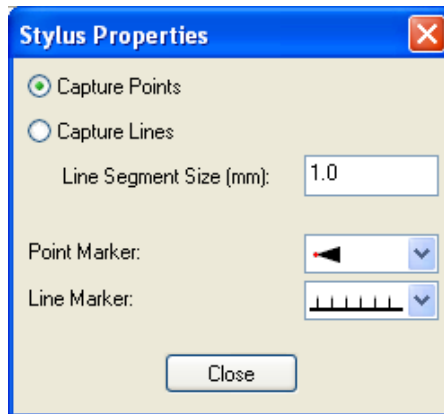
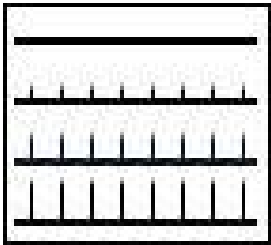

Figure 3: The Stylus Properties dialog box.
Figure 7: The Line Marker options drop-down menu.
Click on **Stylus/Properties** to bring up the **Stylus Properties** dialog box (Figure 3). Ensure that the **Capture Points** option is selected and the stylus is correctly setup (Section 1.1.1 (mechanical) or 1.2.1 (optical)).
Click on **Stylus/Properties** to bring up the **Stylus Properties** dialog box (Figure 3). Ensure that the **Capture Lines** option is selected and the stylus is correctly setup (Sections 1.1.1 or 1.2.1).
Click on **Stylus/Properties** to bring up the **Stylus Properties** dialog box (Figure 3). Then click on the drop-down menu to the right of **Line Marker:**. Select your preferred line style from the menu (Figures 7 & 8).
Line segments (vertical “hairs” coming off the line, see Figures 7 & 8) are the normals and represent the position and orientation of the stylus at that point of the line. The space between these can be user defined (according to the size required) in the **Line Segment Size (mm):** entry box in the **Stylus Properties** dialog box. More points per millimeter gives a smoother line, less points a coarser one.
- **Properties:** Launches the **Stylus Properties** dialog box (Figure 3).